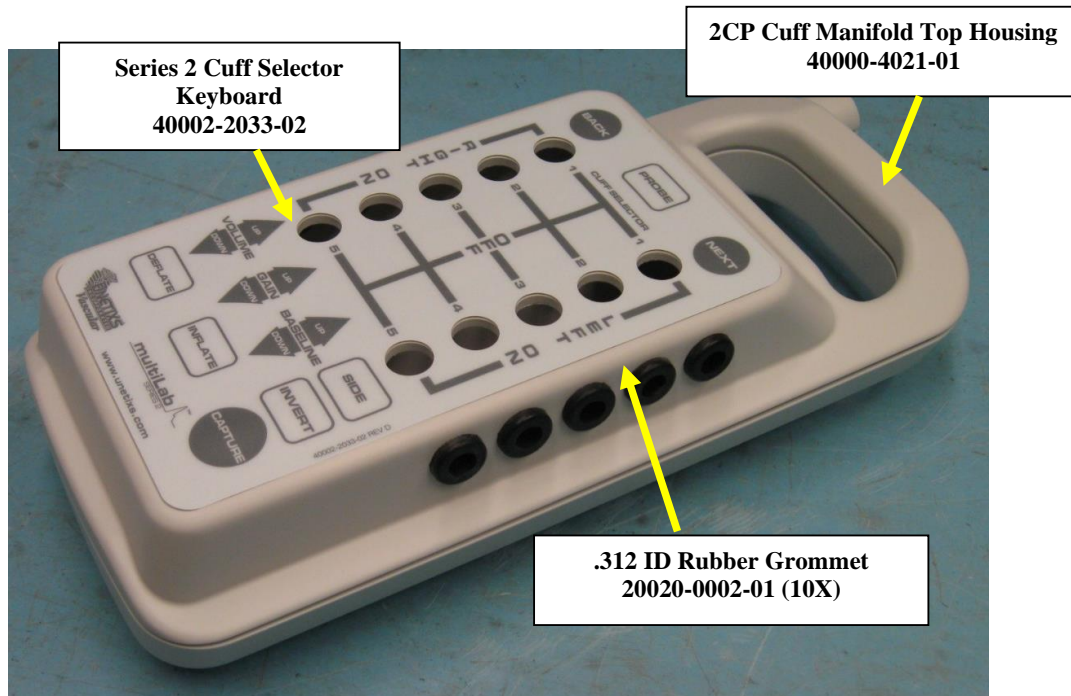

Figure 5
1. Apply the Series 2 Cuff Selector Keyboard Label (40002-2033-02) onto the front of the Cuff Selector Top Housing (40000-4021-01) case as shown in Figure 5. Make sure it is properly aligned with the holes in the front of the case and the cable from the keyboard label fits freely through the rectangular slot without interference.
2. Install the Rubber Grommets (20020-0002-01) 10 per into the case as shown in Figure 5.